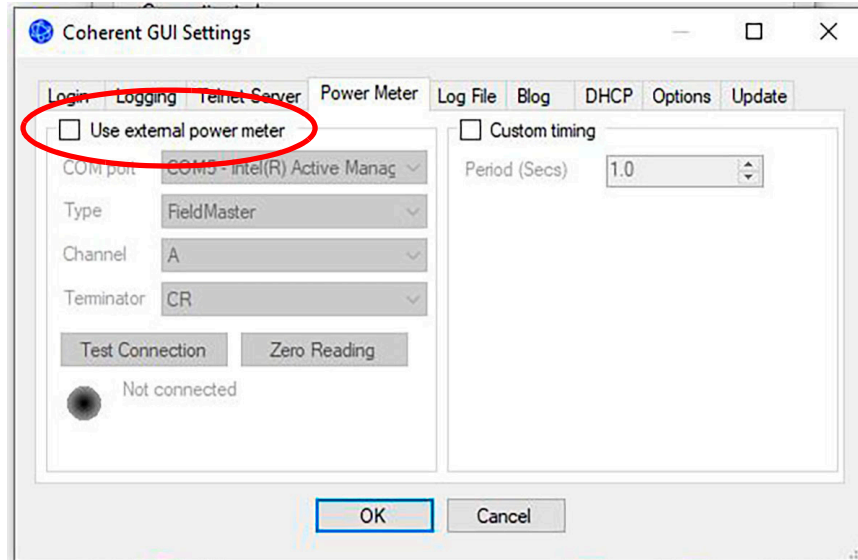

Figure 6-17. Power Meter Settings
5. The “Use External Power Meter” check box must be checked as shown in Figure 6-17 below.